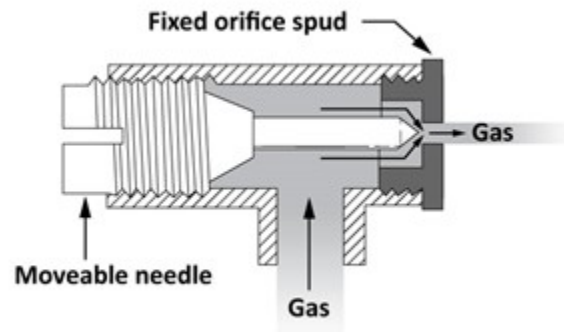

Figure 5 Adjustable orifice
- Figure 5 “Primary air control devices” by Camosun College is licensed under a CC BY 4.0 licence.
Adjustable orifices are used on some nozzle-mix and pre-mix industrial burners. The needle inside the orifice spud is adjustable to increase or decrease the effective opening of the orifice. The gas flow rate can be altered from zero, with the needle tight against the orifice wall, or to the full flow rate, with the needle backed away from the orifice wall (Figure 5).